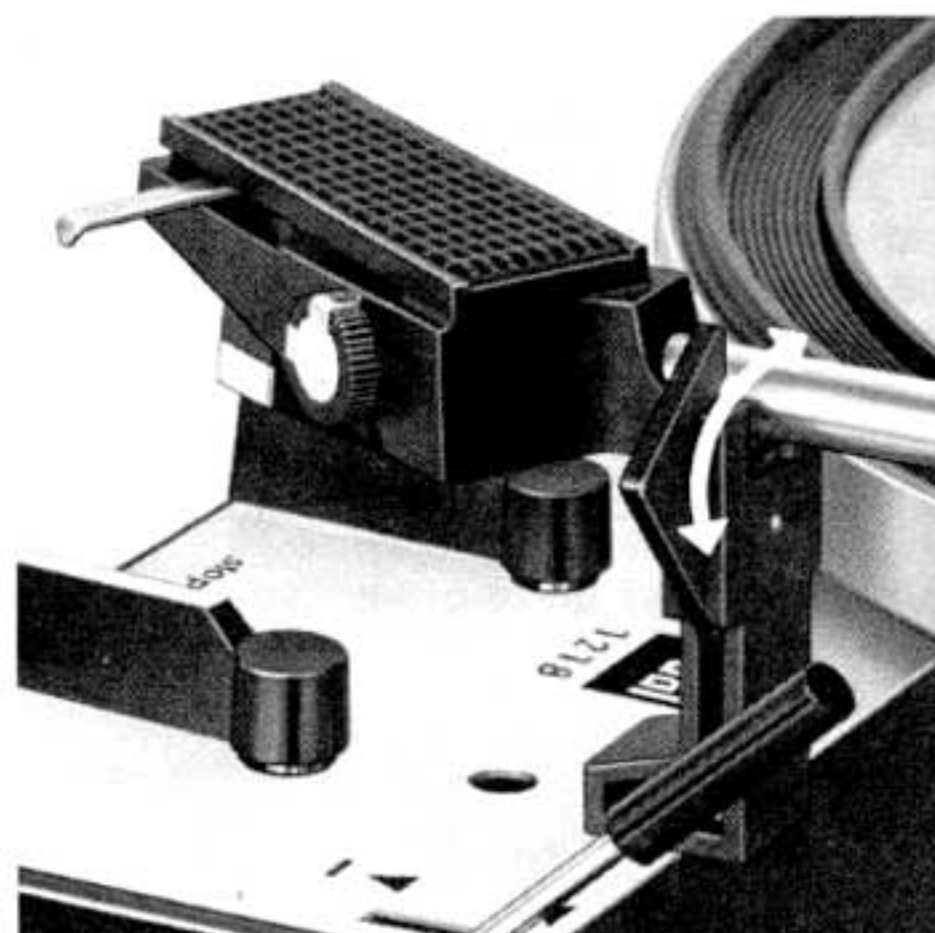

Fig. 7
Select the appropriate turntable speed ②, set the record size selector ⑬ to 7", 10" or 12" resp. (17, 25 or 30 cm), depending on the size of the record you want to play, and unlock the tonearm (Fig. 7).
**Note:** At the end of a record, or at the end of the last record of a stack, the return of the tonearm and switch-off are automatic. It is advisable to lock the tonearm in place (Fig. 7) after turning off the system.